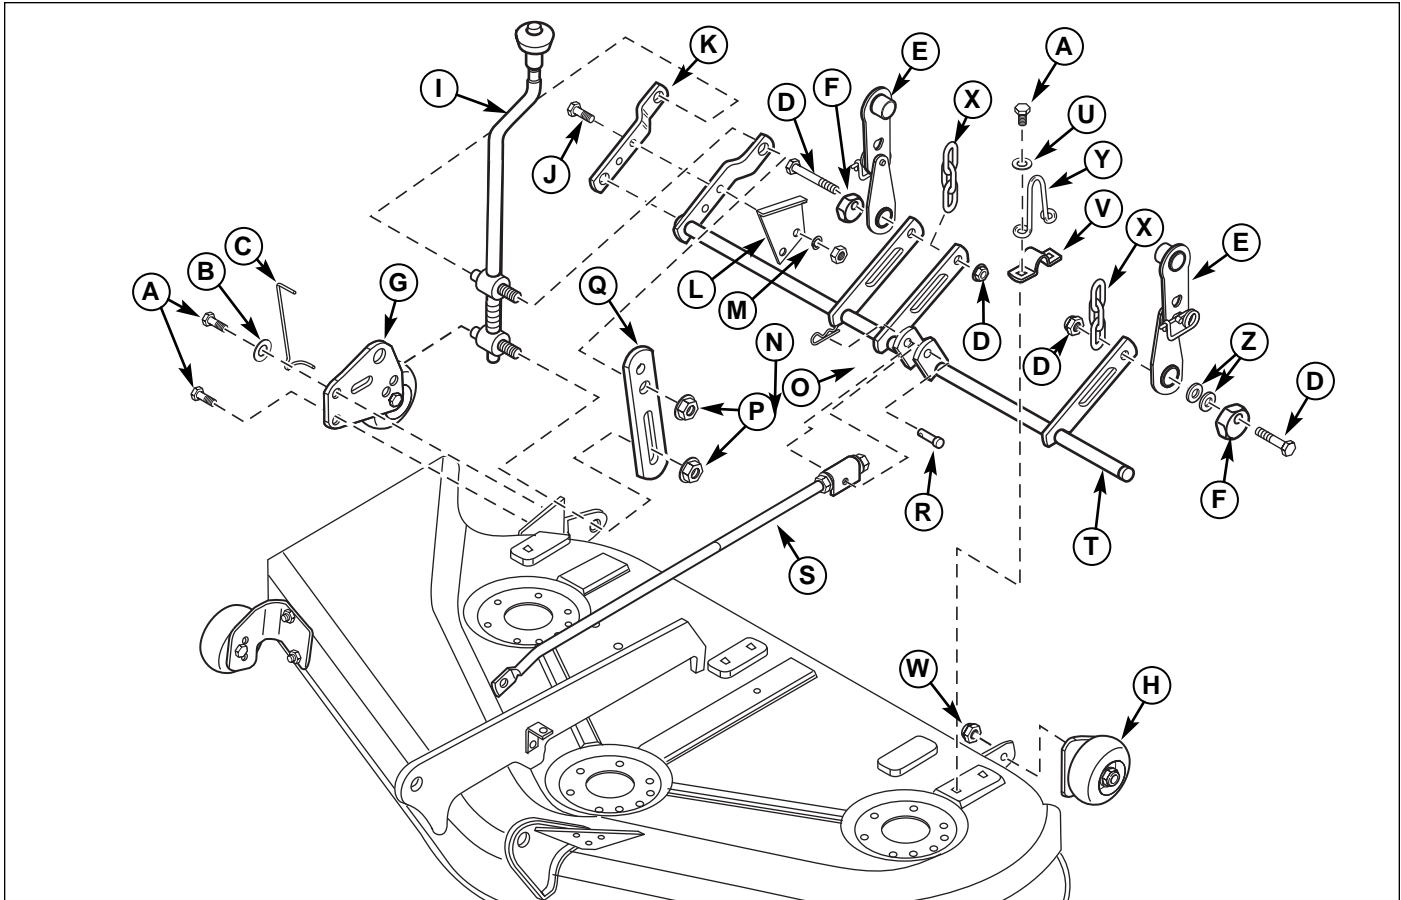

Figure 2. Remove Frame Hung Components
1. Disconnect hair pin (O, Figure 2) and clevis pin (R) from adjustment rod (S). Remove adjustment rod (S) from rocker arm assembly (T). Reconnect hair pin (O) and clevis pin (R) into adjustment rod (S) to prevent loss.
2. Remove and retain 5/16-18 x 1-1/4 capscrews (A), washer (B) and indicator (C). Remove and discard wheel bracket (G).
3. Remove and retain 5/16-18 x 1-1/4 capscrews (J), arm (K) and crank & trunnion assembly (I). Remove and retain nut (N), lockwasher (M) and height of cut plate (L).
4. Remove and discard 1/2-13 locknuts (P), stop (Q).
5. Remove and discard locknut (W) and wheel bracket (H).
6. Remove and discard capscrew & nuts (D), washers (Z), hangers (E). Retain the chains (X) and one of the eccentric nuts (F).